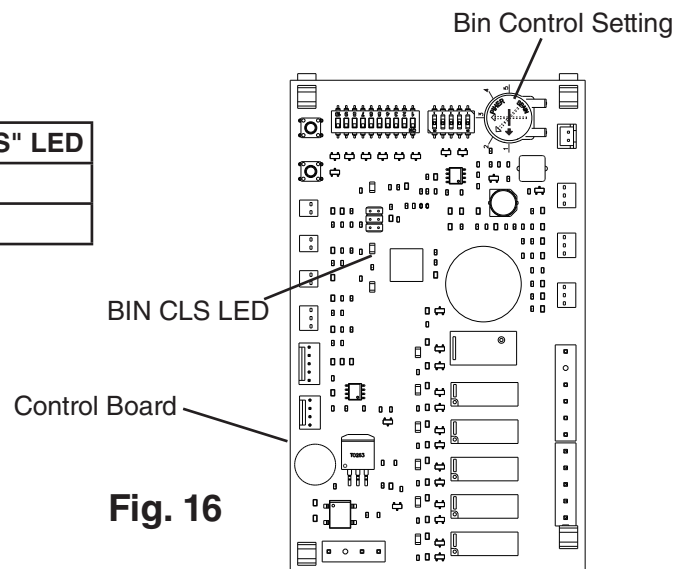

Fig. 16
- 4) Confirm the control board "BIN CLS" LED is off (bin empty). See Fig. 16.
- 3) Remove the insulation panel. Remove the drain plug located on the lower front part of the ice chute. See Fig. 16. Allow the water tank to drain.